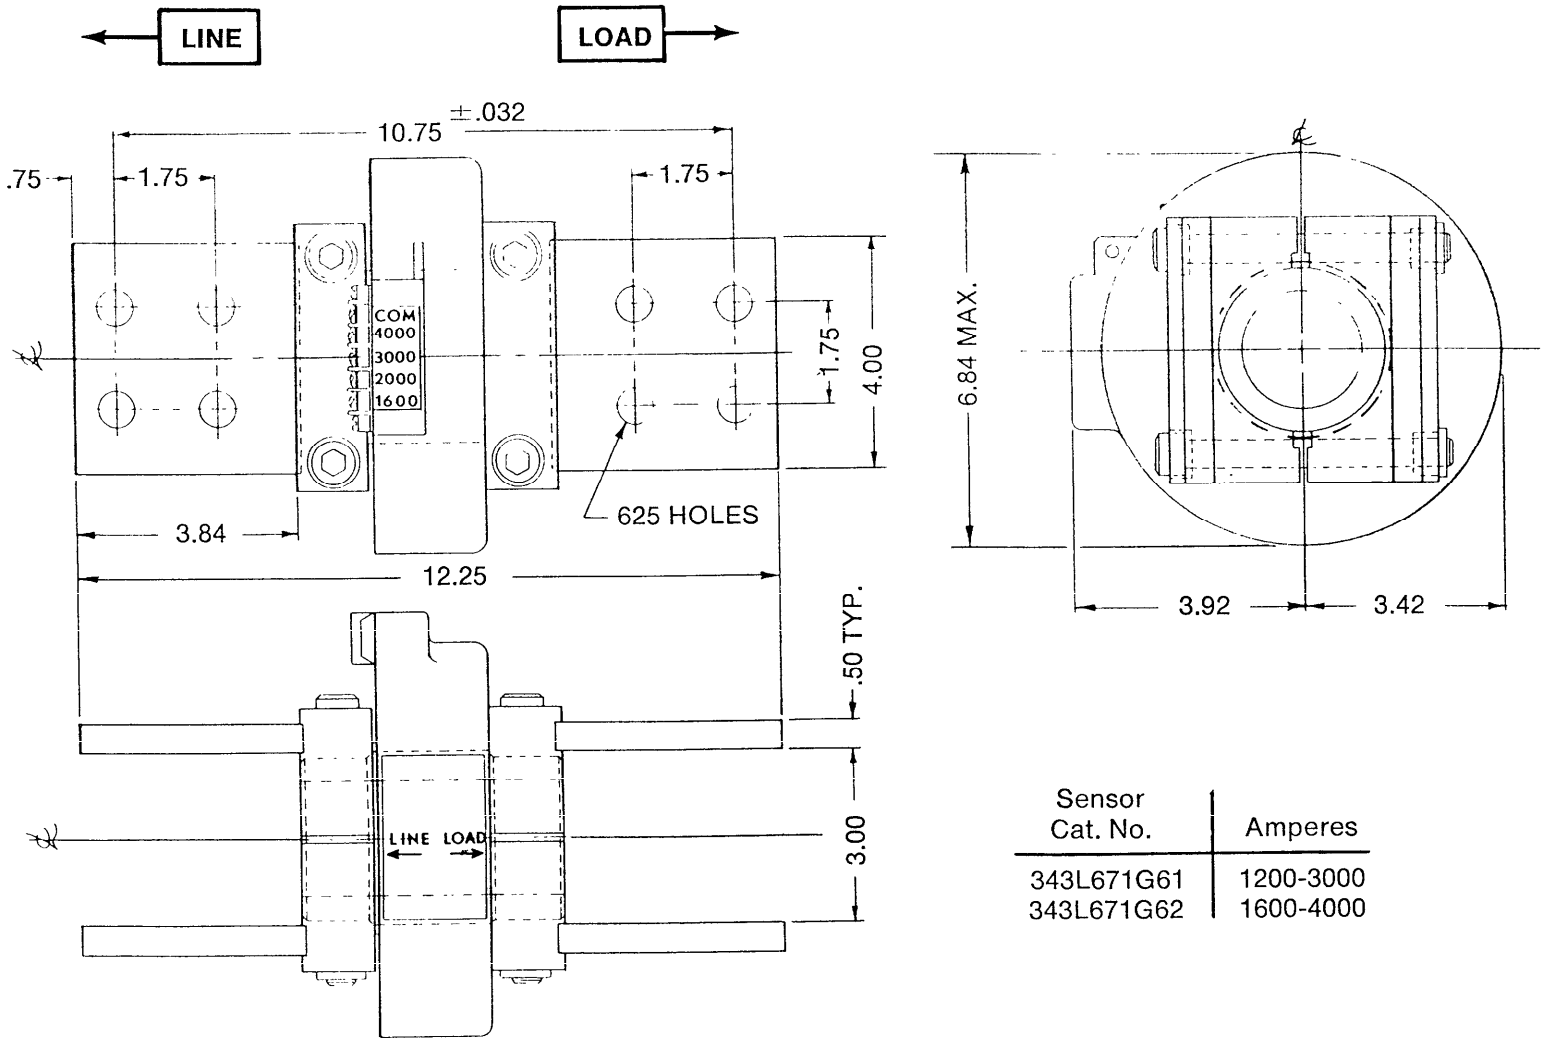

Fig. 21 — Outline of SST 4th-wire neutral sensors (from Outline Dwg. 568B227).
1. Mount the neutral sensor in the outgoing neutral lead, normally in the equipment's bus or cable compartment. Be sure to observe the sensor's *LINE & LOAD* directional markings. See Fig. 21 for the sensor's bar drilling plan. Check to insure that the neutral and phase sensors match, i.e., have the same ampere range.